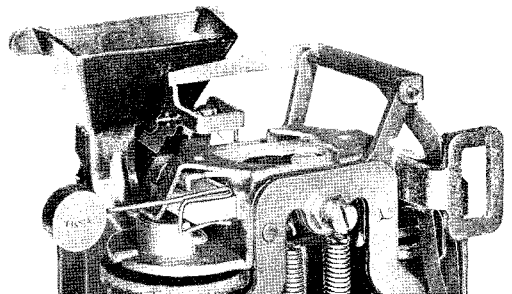

Fig. 60—Bias Margin Test
- (1) To test in collect direction, place a 146A gauge on left side of armature (see Fig. 60).
- (2) Connect hand test set across line terminals.
- (3) Trip coin trigger (see 6.116).
- (4) Obtain collect current by any available local arrangement. Relay should operate to collect (lifting gauge) and trigger should restore. Make test three times (see 6.116).
- (5) To test in refund direction, place 146A gauge on right side of armature.
- (6) Trip coin trigger.
- (7) Obtain refund current. Relay should operate to refund (lifting gauge) and trigger should restore. Make test three times.
- (8) If relay fails to operate in the correct direction or if trigger fails to restore, check for and remove magnetic particles or replace relay.